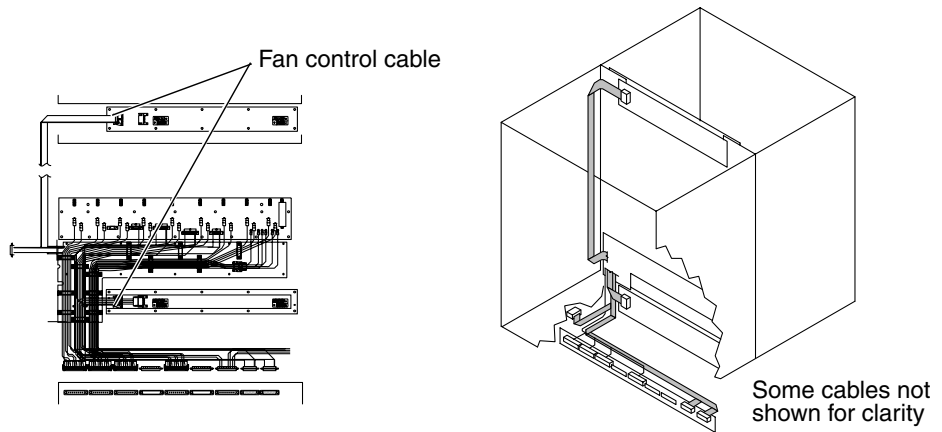

FIGURE 16-12 Internal Cable Harness Set
4. **Remove the twenty-two (22) M4x30 panhead screws retaining the air plenum cover, and remove both the plenum cover and the honeycomb EMI filter panel from the front and rear of the system.**
5. **With a flat-blade screwdriver (if needed), loosen the jackscrews on the seven (7) 8W8 Combo-D 8-pin DC power connectors (on the left side of the power module) and the two (2) DB-25 control connectors (on the right side) on the front and rear of the system.**
6. **Using a 3/16 inch nut driver, carefully remove the two (2) nut screws and the vertical bracket holding the internal harness set connectors to the fan backplane on the front and rear of the system.**
9. **Remove the cable wireway cover by removing the sixteen (16) M4x6 panhead screws (eight (8) per cover), on the front and rear of the system.**
10. **Remove the thirty-eight (38) (nineteen (19) per side) M4x6 panhead screws retaining the black plastic cable cover attached to the center bulkhead on the front and rear of the system.**
11. **Reach through the upper and lower card guide assembly and remove the grey colored connectors attaching the I²C fan cable to the four (4) fan backplanes (FIGURE 16-12).**